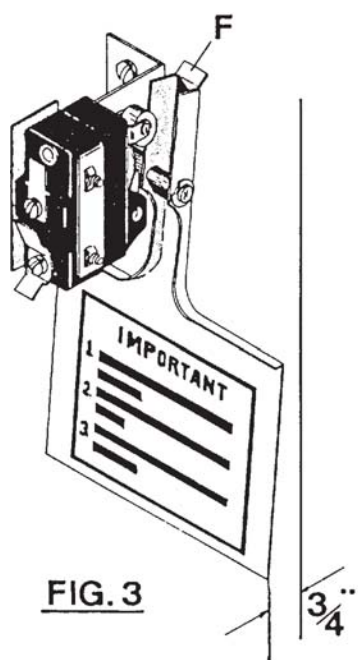

FIG. 1
2. Lay air switch assembly on flat surface. Adjust air blade at "A" (figure 1), so that air blade lays flat and surface "B" is parallel to the flat surface.